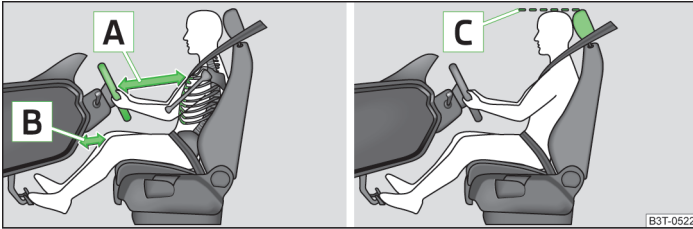

Fig. 152 Correct seated position for the driver/correct head restraint position
- Position the steering wheel so that there is a gap of at least 25 cm between the steering wheel and the chest **[A]** » Fig. 152, and that the distance between the legs and the dash panel at the height of the knee airbag is at least 10 cm **[B]**.
- Adjust the head restraint so that the top edge of the head restraint is at the same level as the upper part of your head **[C]** » Fig. 152 on page 160.
- Adjust the head restraint so that the top edge of the head restraint is at the same level as the upper part of the head **[C]** » Fig. 152 on page 160.